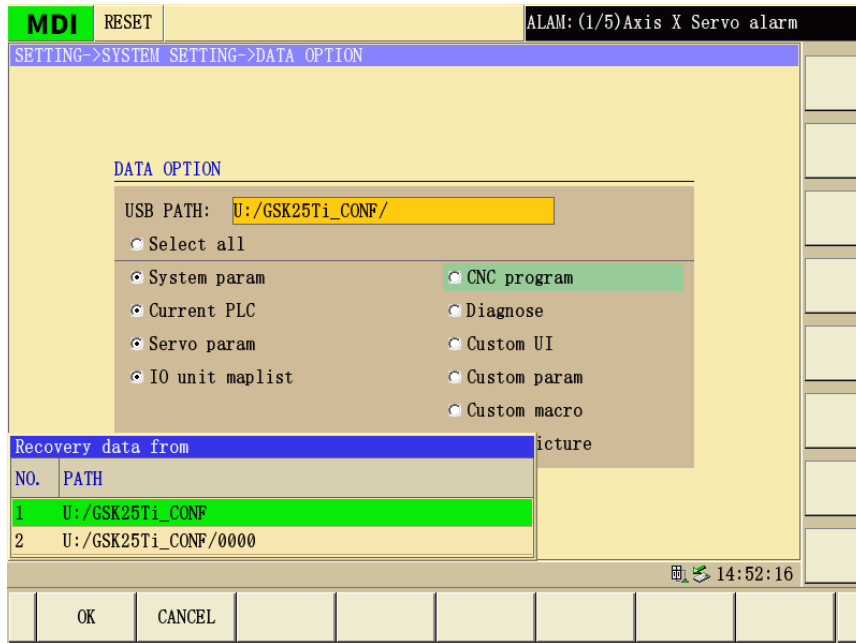

Fig. 1-66
- 3、Click the  key, select the previously backed-up folder name (as shown in Figure 1-66 as "U:/GSK25Ti_CONF"), and then click  to complete the restoration of the selected files.